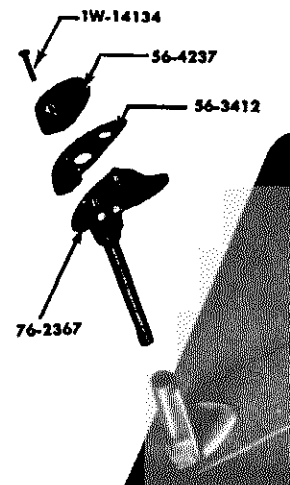

Figure 23. SEPARATOR-POST-ASSEMBLY REMOVAL
- b. Remove plastic handle and separator. See figure 23.
- b. Lift out post. See figure 23.